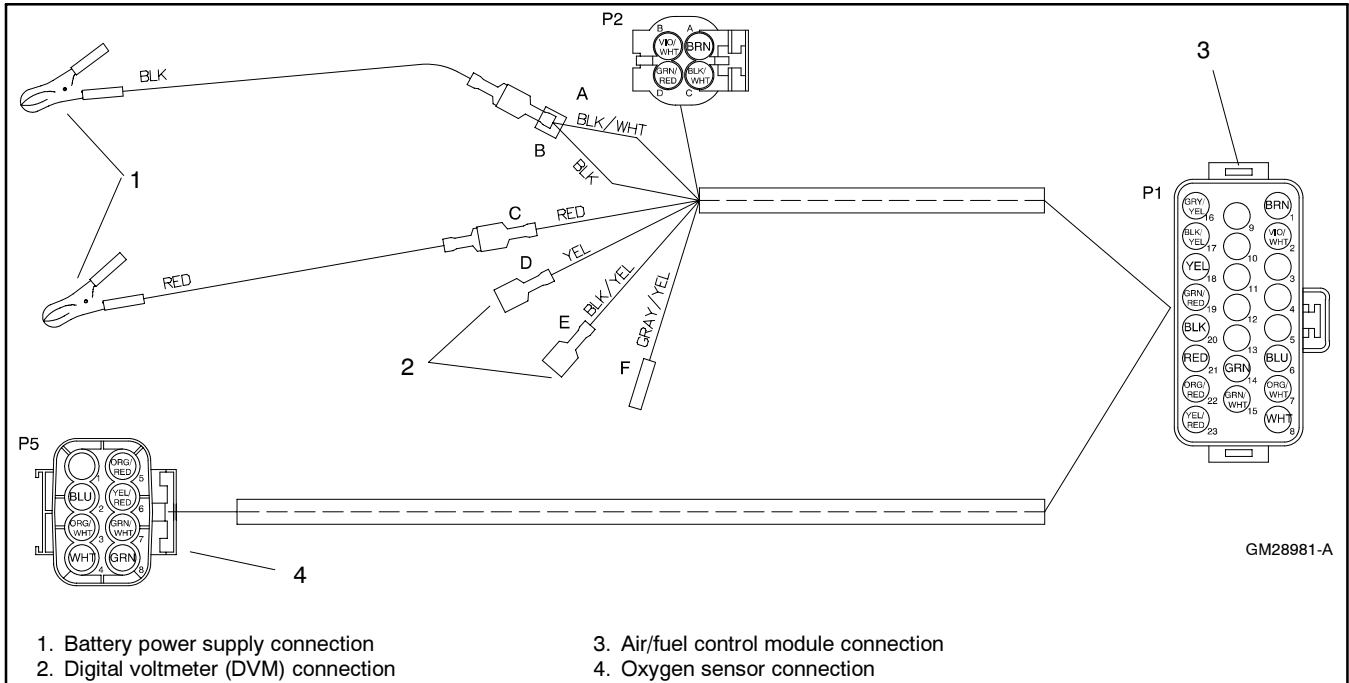

Figure 7-42 Sensor Interface Harness GM28981 Electrical Connections
- c. Connect the oxygen sensor (GM28980) to the interface harness (GM28981). See Figure 7-42.